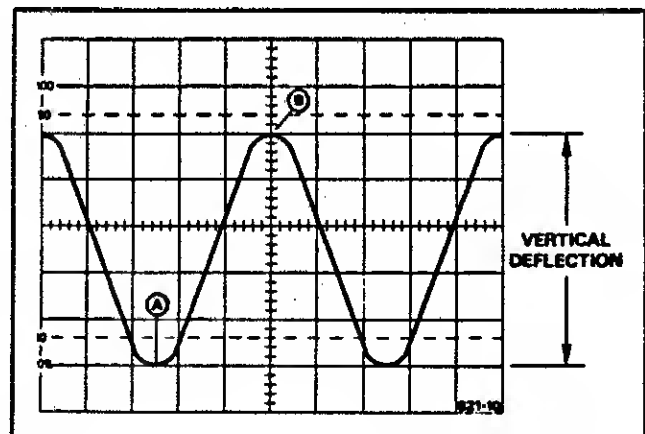

Fig 5-2
To measure the peak to peak voltage of the waveform shown in Fig.5-2 proceed as follows:-
The Vertical deflection of the waveform in Fig.5-2 is 5 div. If the VOLTS/DIV is set to 0.5V and the probe is x10, then the result is:-
a. If the waveform measured in Fig.5-2 is sinusoidal, its r.m.s. value can easily be calculated by the following formula.